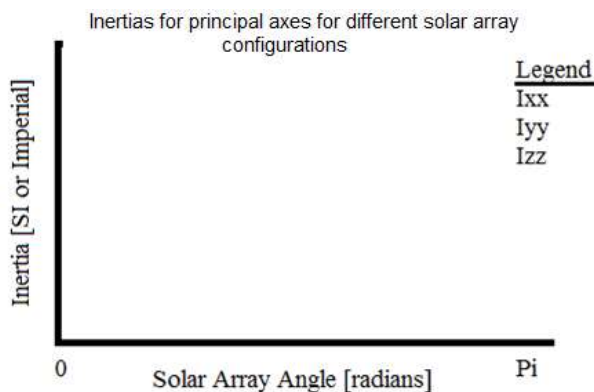

Figure 1
2. Mass Center (single location with reference to something like the end of the spacecraft along the centerline) and Inertia relative to location from #4 (see figure 1. This is the only place the panels will rotate, consider them static otherwise).